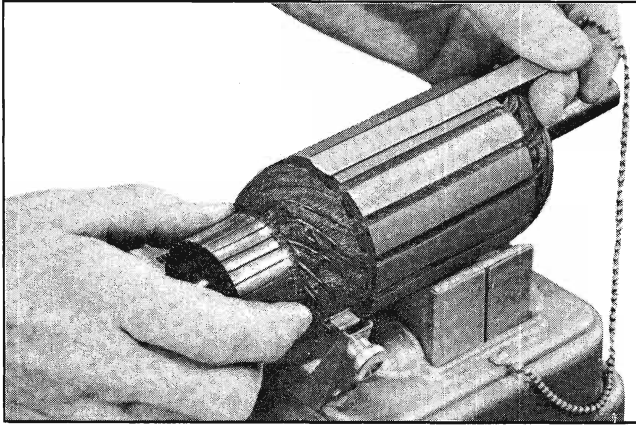

Fig. 11-11 Testing Armature for Shorts
a. Check armature for shorts by placing on growler and with hack saw blade over armature core, rotate armature (Fig. 11-11). If saw blade vibrates, armature or commutator is shorted. Re-check after cleaning between the commutator bars and if saw blade still vibrates, armature is shorted and must be replaced.